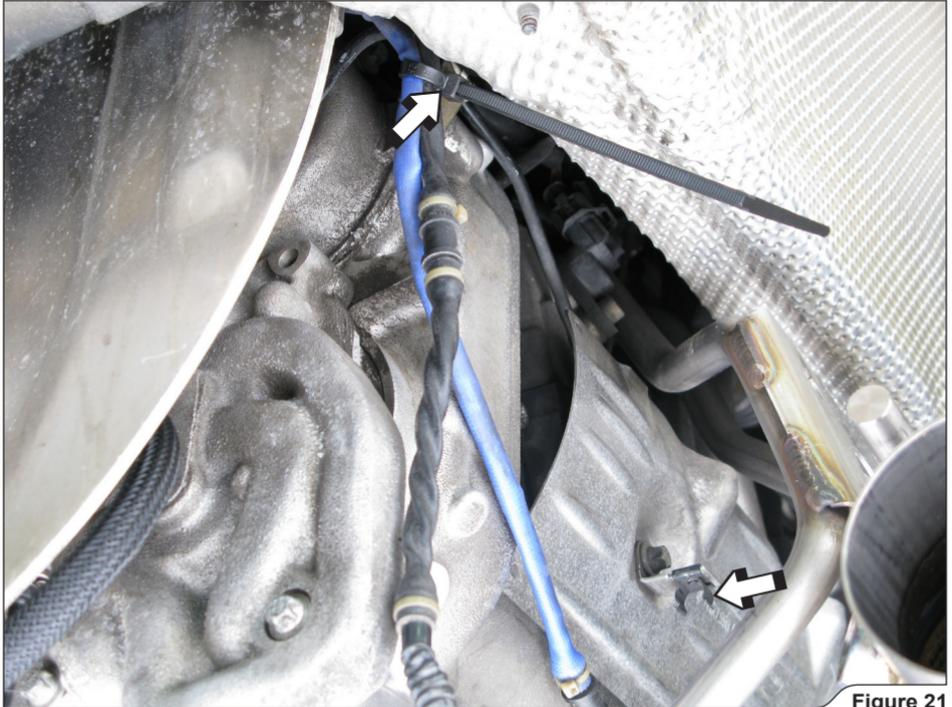

Figure 21
3. **For Evolution and Evolution-Race (right side of the vehicle):** attach the lambda sensor's black electrical lead with a plastic tie and turn upside down the blue electrical lead's bracket as shown (**Figure 21**). Cut away excess of the tie.